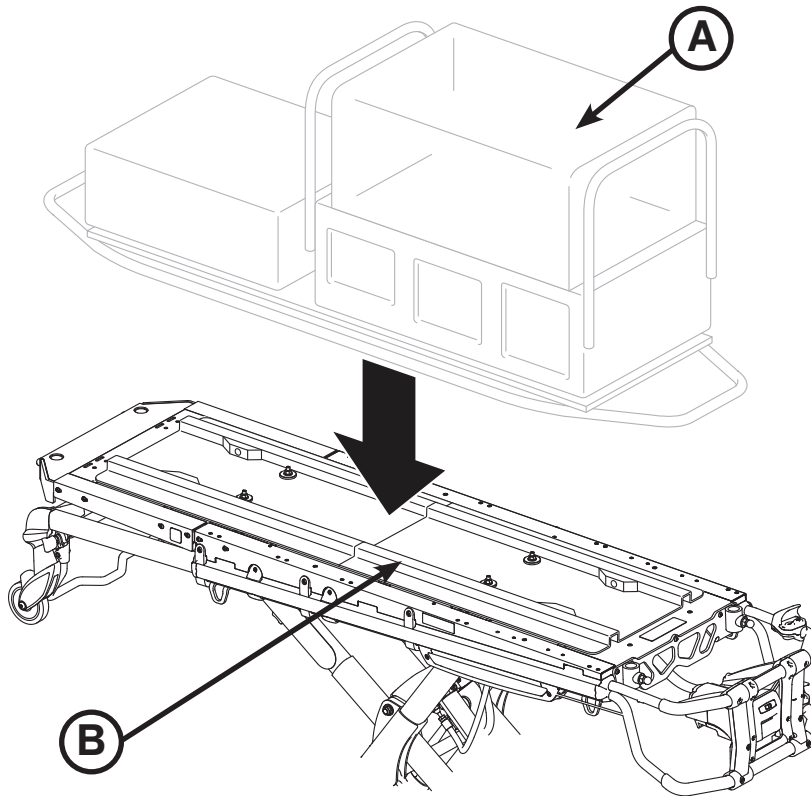

Figure 31: Air Sled Installation
1. Use the supplied fasteners to bolt the receptacle to the litter frame as shown in Figure 31.
2. Insert the Air Sled (A) into the receptacle (B) by using the latching system that is included as part of the Air Sled apparatus.